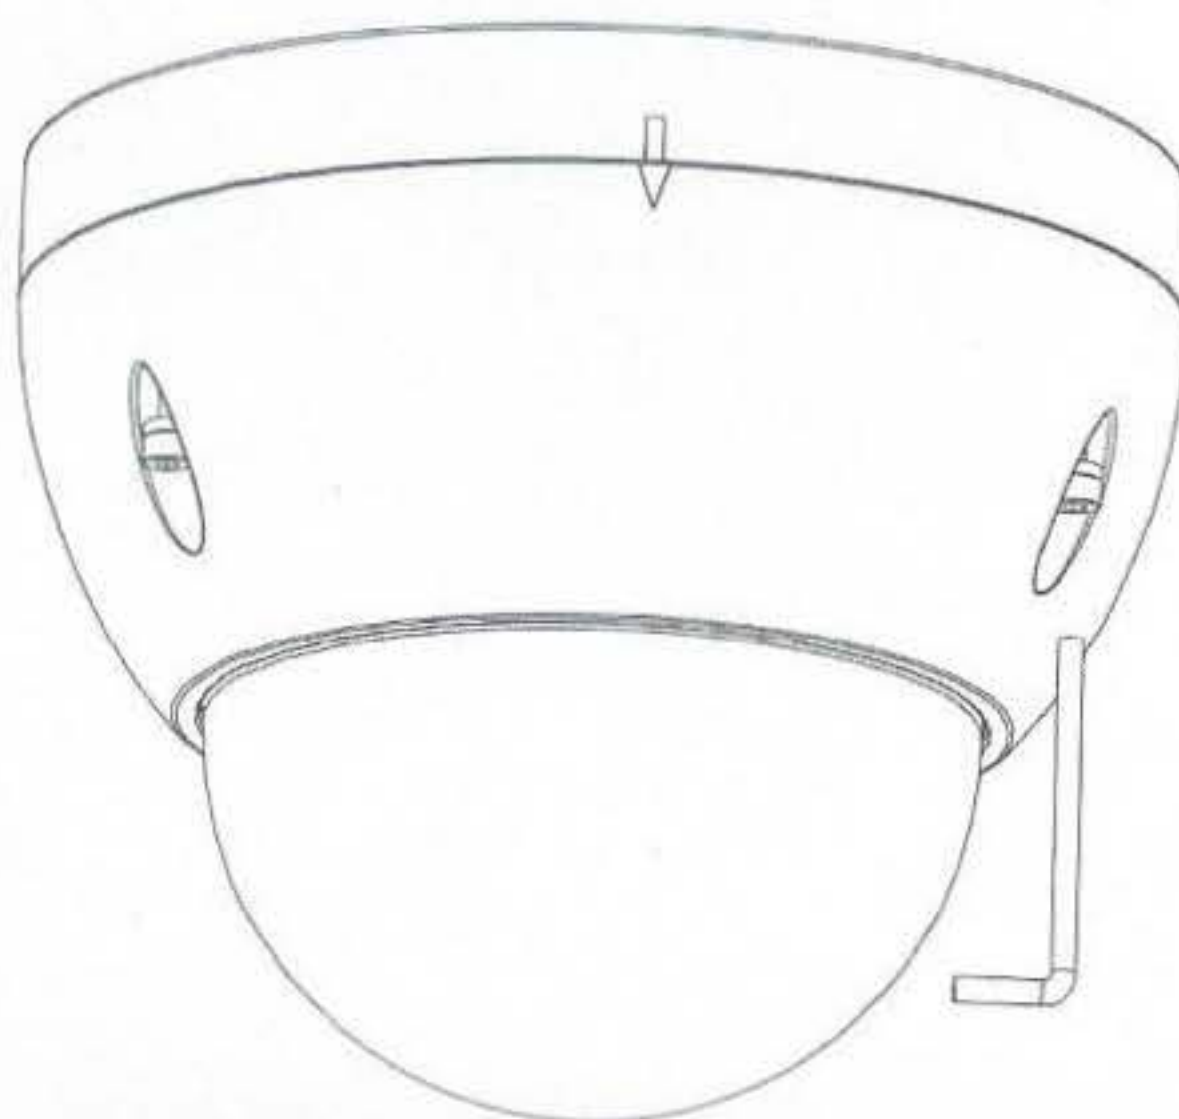

Figure 3-3
4) In Figure 3-3, use three screws (provided) to secure the external enclosure on the pedestal and fix firmly,